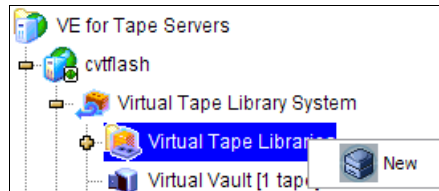

Figure 6-34 Virtual library: Starting the Create Virtual Library Wizard
1. As shown in Figure 6-34, right-click **Virtual Tape Libraries**. Select **New** to start the wizard.